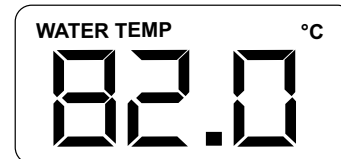

Figure 52. Coolant Temperature Display
13. The **coolant temperature gauge** (Figure 52) will indicate the coolant temperature. Under normal operating conditions the coolant temperature should be approximately 180°F (82°C).